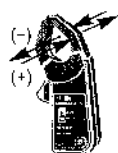

Fig. 3. Polarity of dc current readings.
3. The dc current reading is positive when the current is flowing into the clamp from the front. The reading is negative when current is flowing outwards. See Fig. 3.